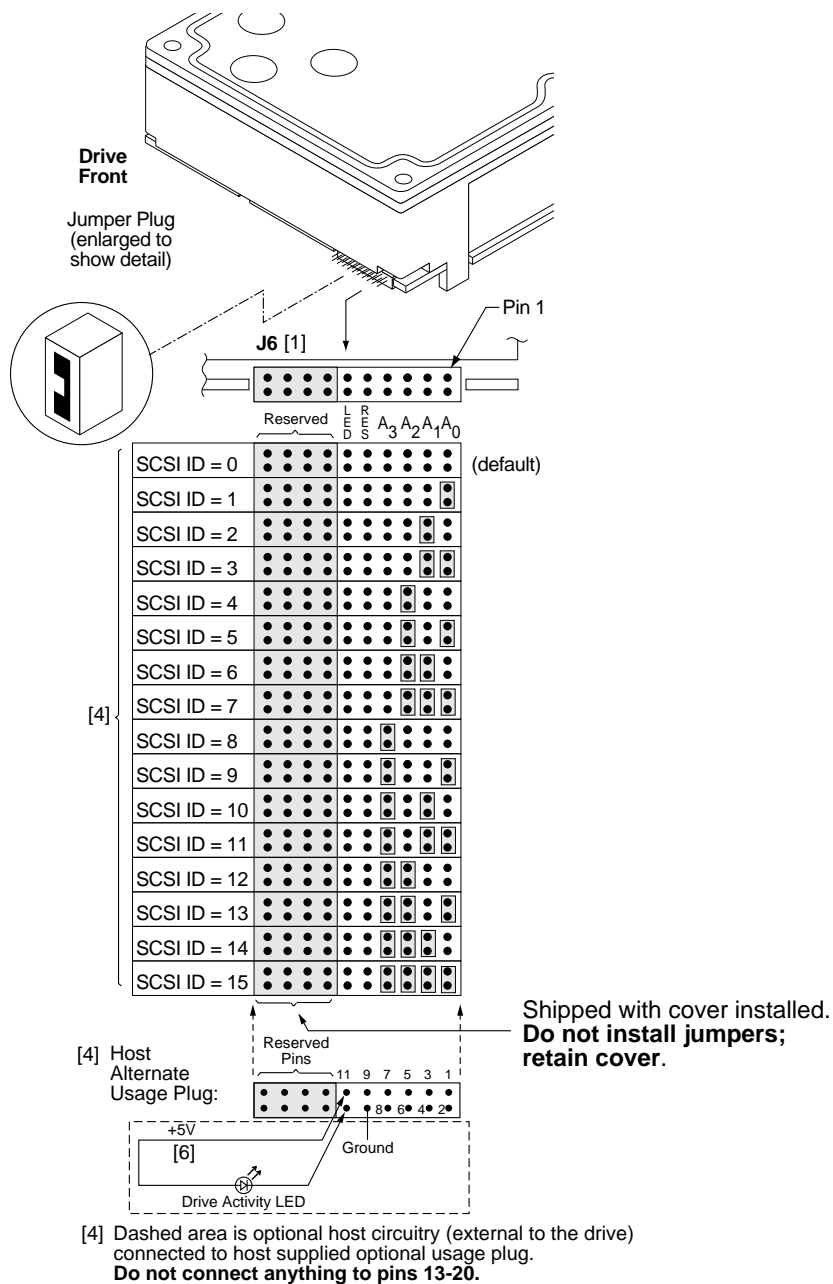
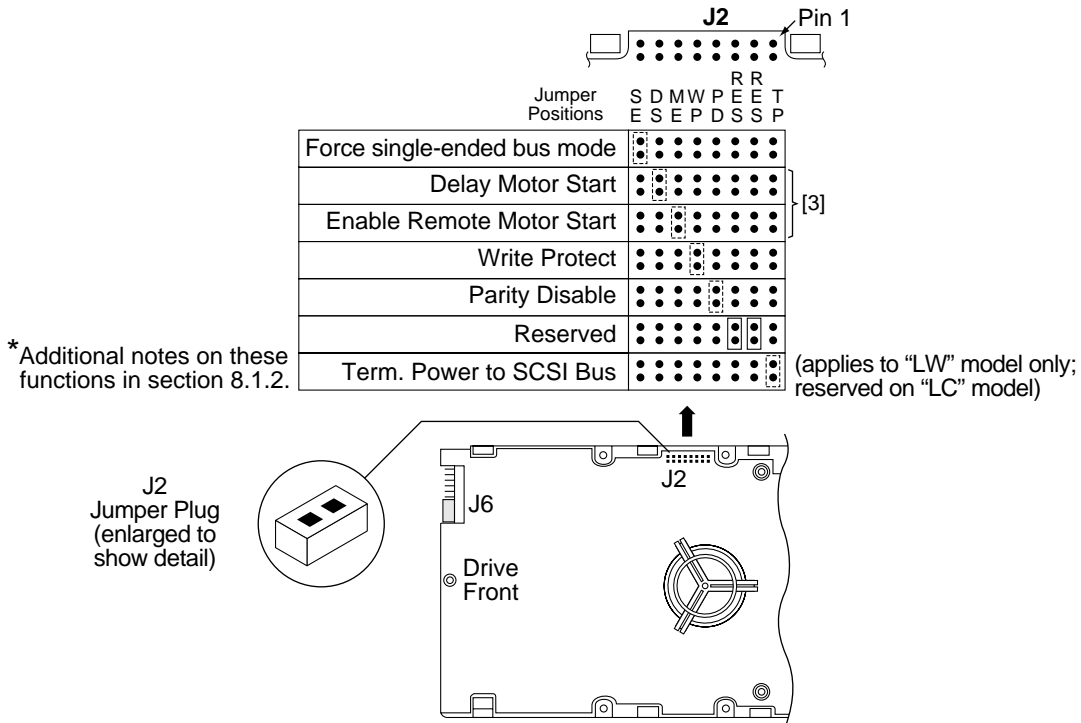

Figure 12. J6 jumper header
Figure 14. J2 option select header
For option jumper locations and definitions refer to Figures 12, 13, and 14. Drive default mode parameters are not normally needed for installation. Refer to Section 9.3.2 for default mode parameters if they are needed.
Figures 12 and 13 show views of the drive ID select jumper connectors. Figure 14 shows the option select jumper connector for all models. Figure 12 shows the drive’s J5-auxiliary jumper connector. Both J5-auxiliary and J6 have pins for selecting drive ID and for connecting the remote LED cable. Only one or the other should be used, although using both at the same time would not damage the drive. The notes following the figures describe the functions of the various jumper positions on the connectors J2, J5-Auxiliary and J6. Suggested part number for the jumpers used on J2 is Molex 52747-0211 (Seagate part number 77679052). A bag with the two jumper plug types is shipped with the standard OEM drives.
8.1.1 Notes for Figures 12, 13, and 14.